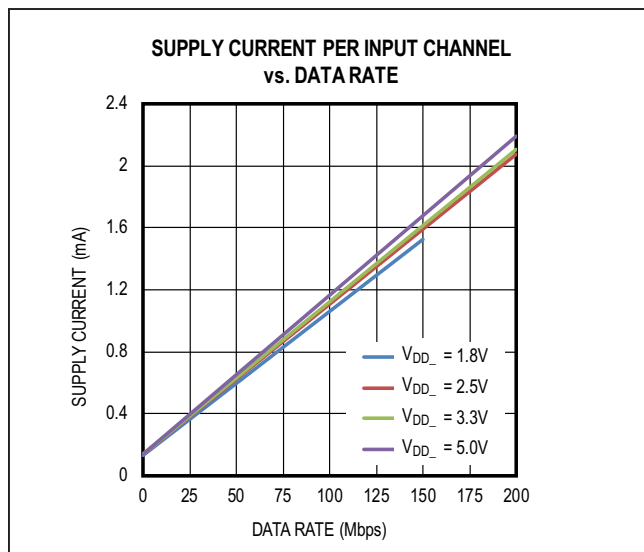
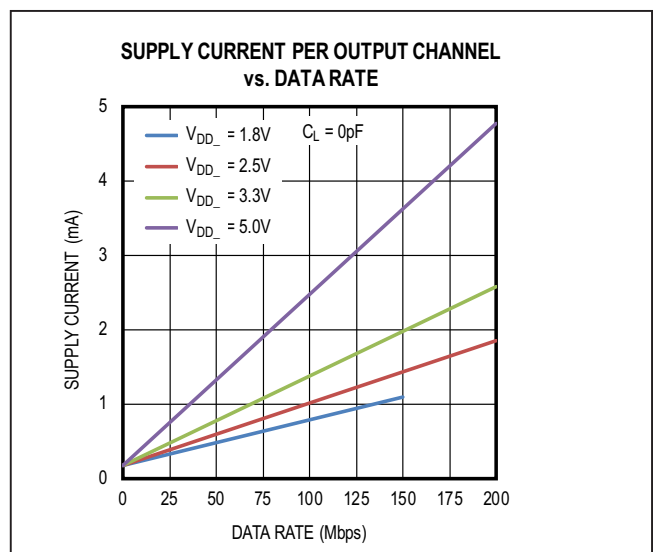

Figure 7. Supply Current Per Input Channel
Figure 8. Supply Current Per Output Channel
The required current for a given supply ( $V_{DDA}$  or  $V_{DDB}$ ) can be estimated by summing the current required for each channel. The supply current for a channel depends on whether the channel is an input or an output, the channel's data rate, and the capacitive or resistive load if it is an output. The typical current for an input or output at any data rate can be estimated from the graphs in Figure 7 and Figure 8. Please note the data in Figure 7 and Figure 8 are extrapolated from the supply current measurements in a typical operating condition.
The total current for a single channel is the sum of the “no load” current (shown in Figure 7 and Figure 8), which is a function of Voltage and Data Rate, and the “load current”, which depends on the type of load. Current into a capacitive load is a function of the load capacitance, the switching frequency, and the supply voltage.
- ISDO operating at 3.3V and 10Mbps, consuming 0.24mA, estimated from Figure 7.
- $\overline{IFault}$  operating at 3.3V and DC, consuming 0.14mA, estimated from Figure 7.
- OAUX operating at 3.3V and 1Mbps, consuming 0.19mA, estimated from Figure 8.  $I_{CL}$  on OAUX for 10pF capacitor at 3.3V is 0.017mA.
- OSDI operating at 3.3V and 10Mbps, consuming 0.30mA, estimated from Figure 8.  $I_{CL}$  on OSDI for 15pF capacitor at 3.3V is 0.25mA.
- OSCLK operating at 3.3V and 20Mbps, consuming 0.42mA, estimated from Figure 8.  $I_{CL}$  on OSCLK for 15pF capacitor at 3.3V is 0.50mA.
- $\overline{OCS}$  operating at 3.3V and 2.5Mbps, consuming 0.21mA, estimated from Figure 8.  $I_{CL}$  on  $\overline{OCS}$  for 15pF capacitor at 3.3V is 0.062mA.
- IAUX operating at 2.5V and 1Mbps, consuming 0.15mA, estimated from Figure 7.
- ISDI operating at 2.5V and 10Mbps, consuming 0.23mA, estimated from Figure 7.
- ISCLK operating at 2.5V and 20Mbps, consuming 0.33mA, estimated from Figure 7.
- $\overline{ICS}$  operating at 2.5V and 2.5Mbps, consuming 0.16mA, estimated from Figure 7.
- OSDO operating at 2.5V and 10Mbps, consuming 0.27mA, estimated from Figure 8.  $I_{CL}$  on OSDO for 15pF capacitor at 2.5V is 0.19mA.
- $\overline{OFAult}$  operating at 2.5V and 1Mbps, consuming 0.18mA, estimated from Figure 8.  $I_{RL}$  on  $\overline{OFAult}$  for 10k $\Omega$  resistor at 2.5V is 0.25mA.